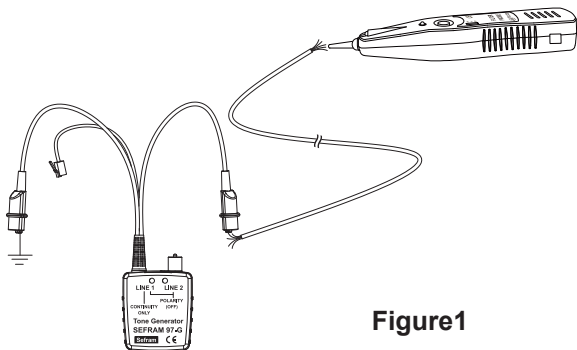

Figure 1
Connect one test lead to a terminated wire and the other test lead to earth or equipment ground. (See figure 1)
- a. Connect the test leads to the pair, or attach one lead to ground and one lead to either side of the line. (See figure 1)